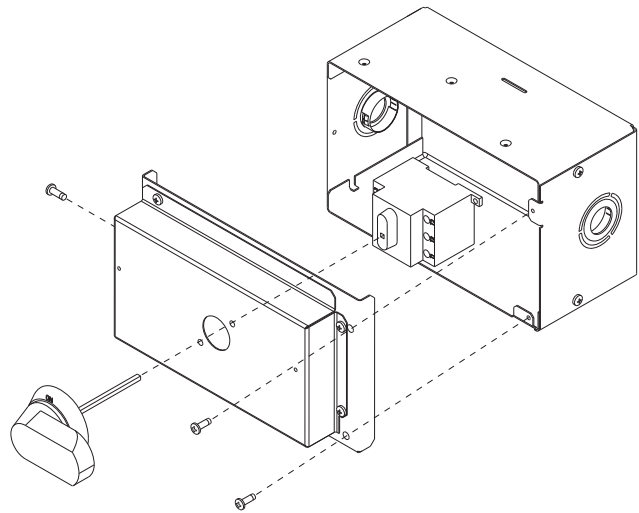

Fig. 21 — Handle and Shaft Assembly for NFD
2. Remove (3) hex screws on the NFD enclosure — (2) on the face of the cover and (1) on the left side cover. See Fig. 21.
10. Secure the handle to the painted cover with (2) screws and lock washers supplied.
11. Engaging the shaft into the handle socket, re-install (3) hex screws on the NFD enclosure.